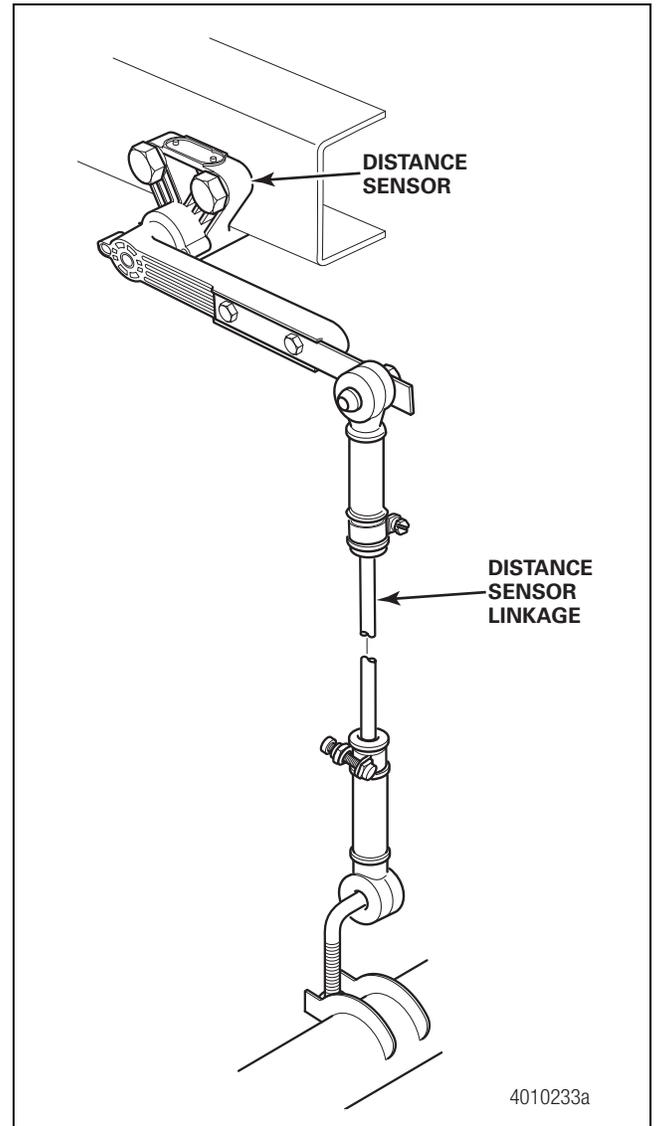

Figure 19
- B. The Meritor WABCO Distance Sensor must be attached to the trailer structure directly above the axle, close to the axle's center. Figure 19.
The Distance Sensor is mounted to the cross member above the axle. Figure 19. It must be mounted directly to the trailer structure. If needed, a steel bracket may be fabricated and then welded to the cross member, in order to bring the Distance Sensor to the appropriate mounting height. The distance sensor should be mounted close to the center of the trailer.